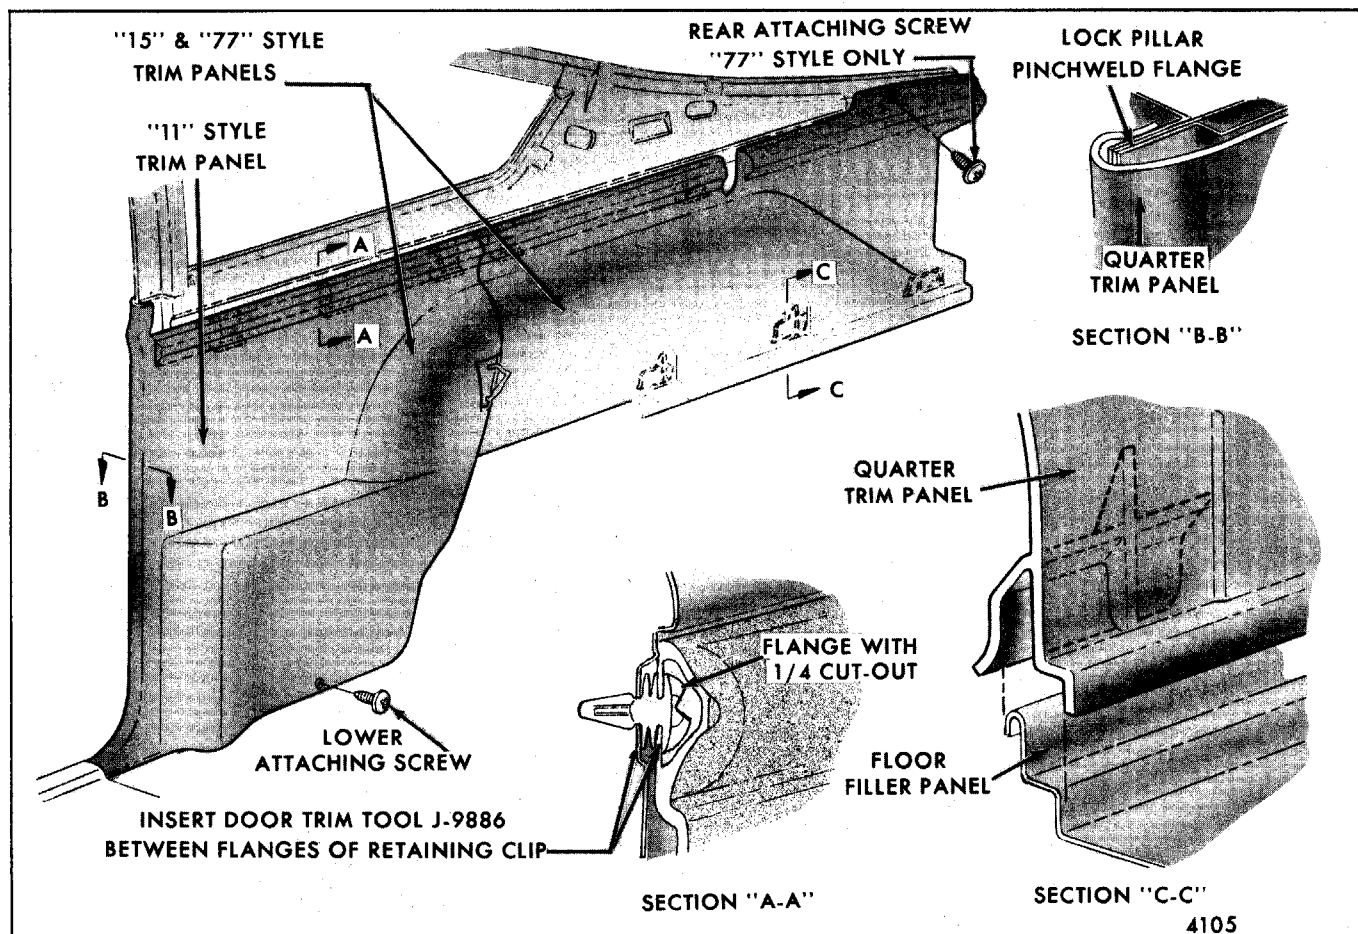

Fig. 6-6-"H-11,15 and 77" Rear Quarter Trim Assembly ("H-07" Similar)
2. If removing front trim assembly, remove lower attaching screw. If removing rear trim assembly on "77" style, remove rear attaching screw (see Fig. 6-6).
3. At top of trim assembly, carefully insert trim removal tool BT-7323 or equivalent between flanges of trim assembly retainer (see Section "A-A", Fig. 6-6) and carefully pry retainer out of hole in rear quarter inner panel. Perform this operation at all retainer locations (see Fig. 6-6). Retainers on "07" style are located at rearmost portion of quarter trim.
If removing rear trim panel, pull panel rearward to disengage front of panel from under rear of front trim panel; then lift panel upward to disengage lower retainers from floor filler panel (see Section "C-C", Fig. 6-6) and remove trim assembly.
To replace trim assembly retainer, start retainer flange with 1/4 cutout (see Section "A-A", Fig. 6-6) into attachment hole in trim assembly; then rotate retainer until flange with 1/4 cutout is inside of attachment hole.